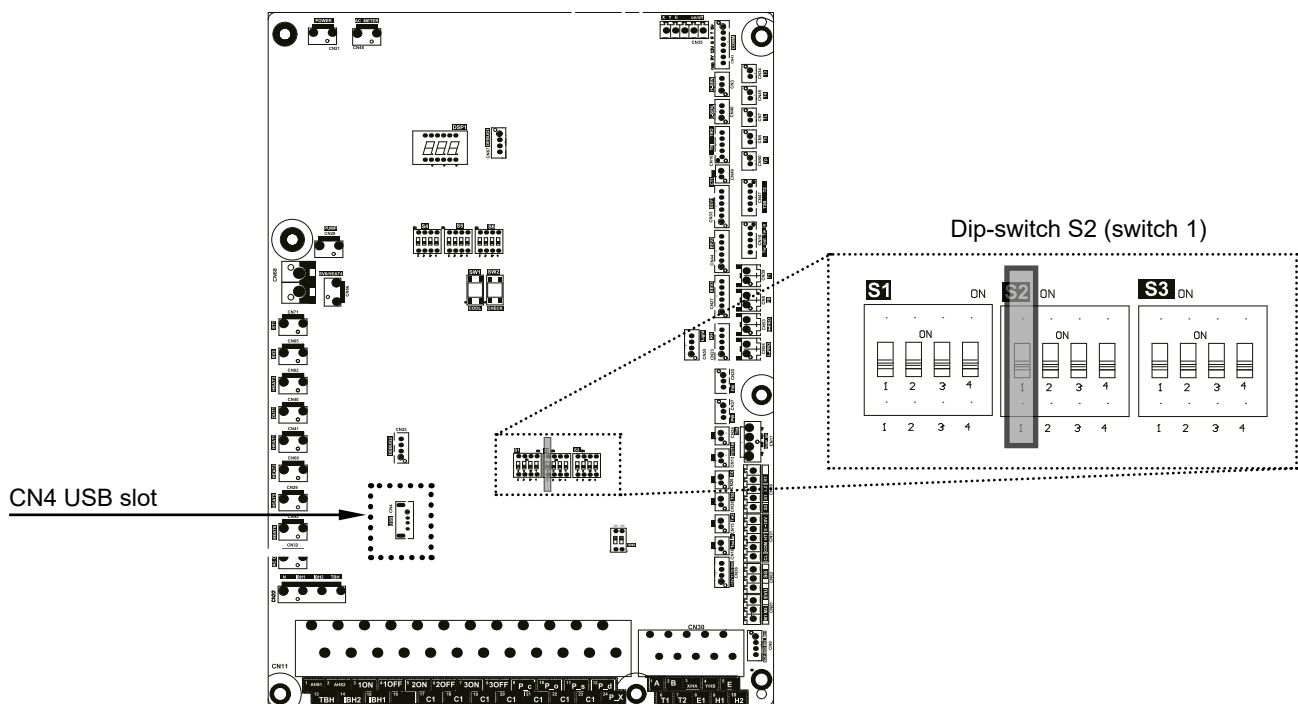

Figure 49. Outdoor PCB
- 3. **Make sure that DIP switch S2 (switch 1) is set to the ON position, see Figure 49.**
3. **Make sure that DIP switch S2 (switch 1) is set to the OFF position, see Figure 49.**
2. On the Outdoor PCB (Figure 49) insert the USB stick (provided) into the slot marked CN4 USB.